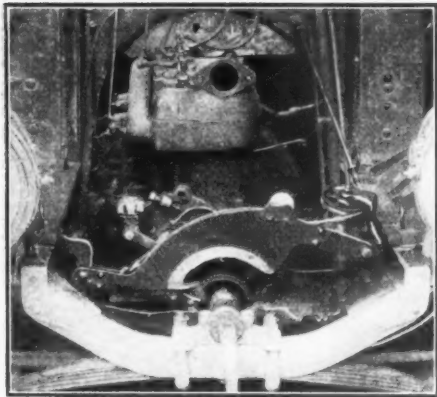

Fig. 5—Denver Ford starter
**Denver Ford Starter**—A mechanical starter, Fig. 5, of the pull type, weighing only 10 pounds, and fitting readily between the fan belt and the fan, is made by the Denver Ford Starter Co. A pull on the hand lever always connects immediately with the crank shaft, no matter where the engine happens to rest, and a 12-inch pull turns the engine over completely and quickly.